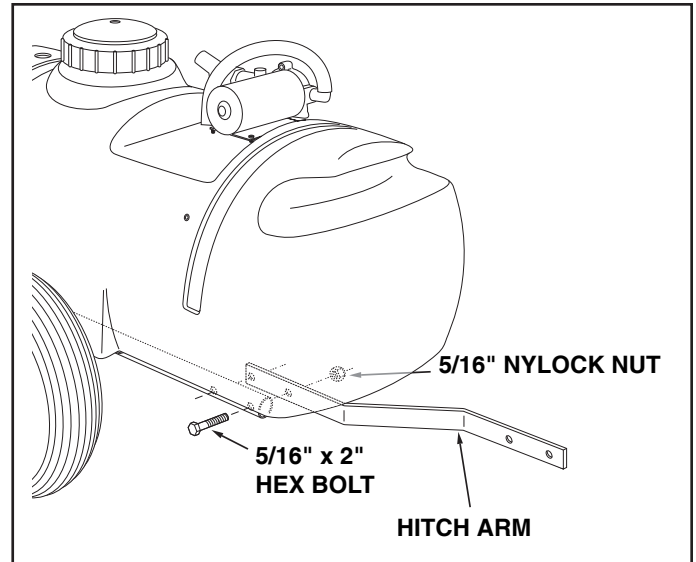

FIGURE 3
6. Assemble a hitch arm to the inside of a frame tube underneath the tank. Use two 5/16" x 2" hex bolts and 5/16" nylock nuts as shown in figure 3. **Do not tighten yet.** Repeat for other side.
9. **Tighten all bolts** starting with the bolts in figure 3, then the bolts in figure 4.